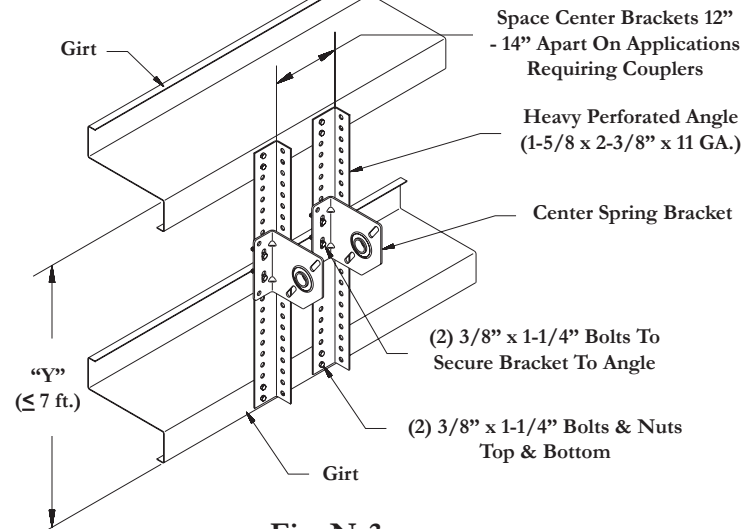

Fig. N-3
Maximum Door Size 14' x 12' (Maximum Door Weight 400 lb.): Cut (2) perforated angle (1-5/8 x 2-3/8" x 11 GA.) to Dim "Y". Thru-bolt top and bottom of each angle to each girt using (4) 3/8" x 1-1/4" bolts and nuts. Thru-bolt each center bracket to perforated angle using (2) 3/8 x 1-1/4" bolts and nuts (See Fig. N-3).